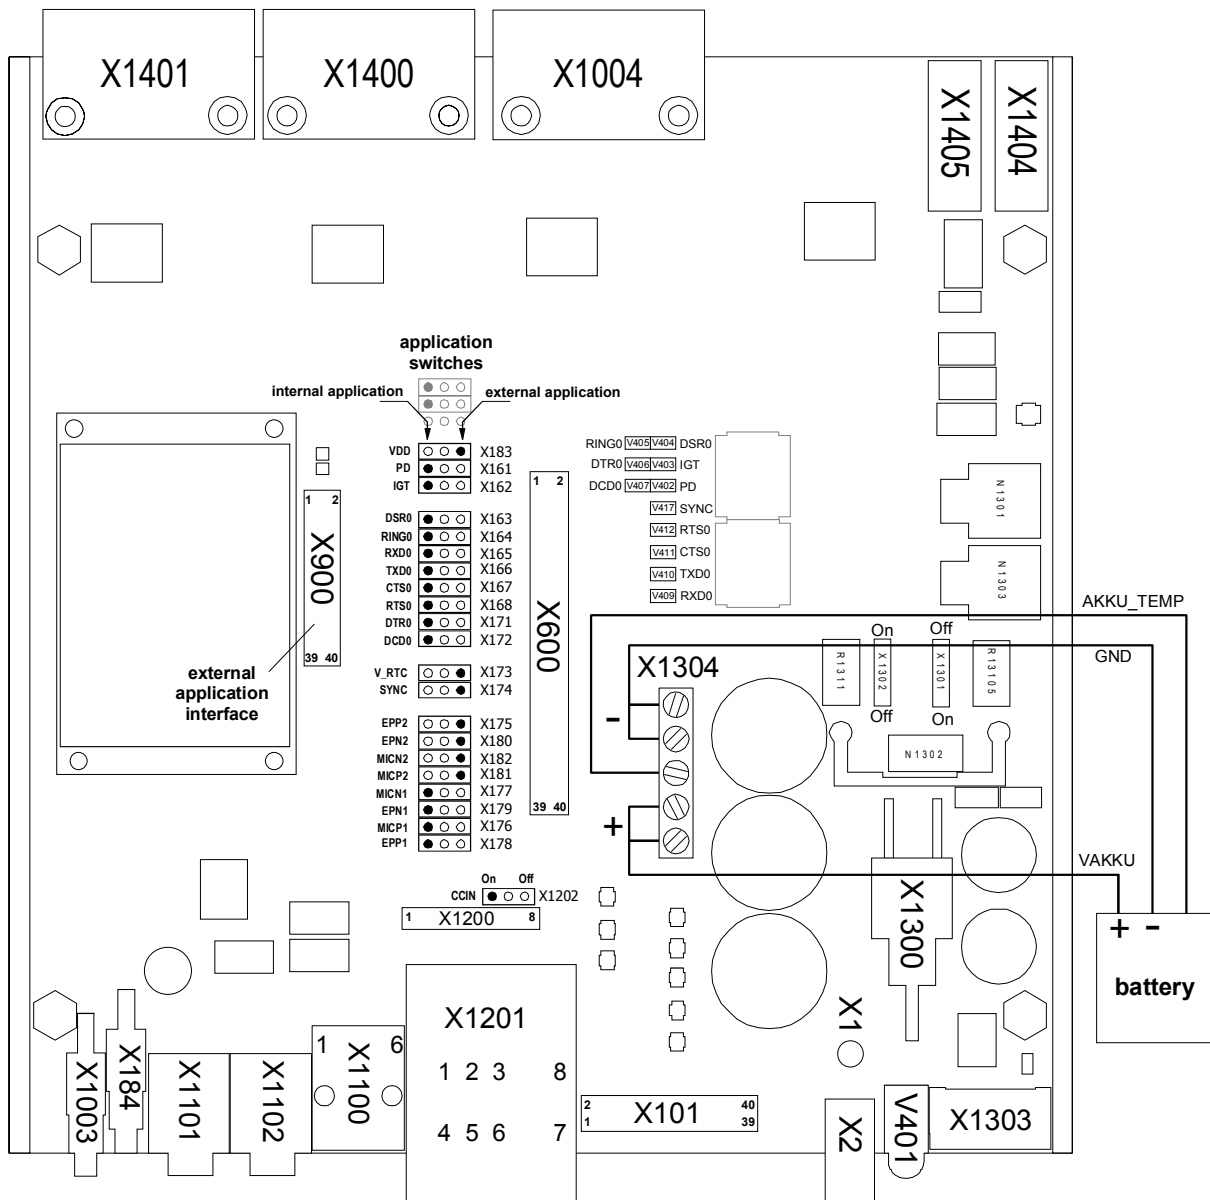

Figure 33: DSB35 board interfaces
*The laboratory PSU connects to the 4mm X1404 and X1405 jacks illustrated in Figure 33.*
To vary the supply voltage the DSB board uses the two R1311 and R1305 potentiometers. Both can be easily adjusted with the X1301 and X1302 slide switches and a screw on each potentiometer. The position of the switches and the potentiometers can be gathered from Figure 33. For further details on the slide switches and the generated supply voltage please refer to the DSB35 manual.